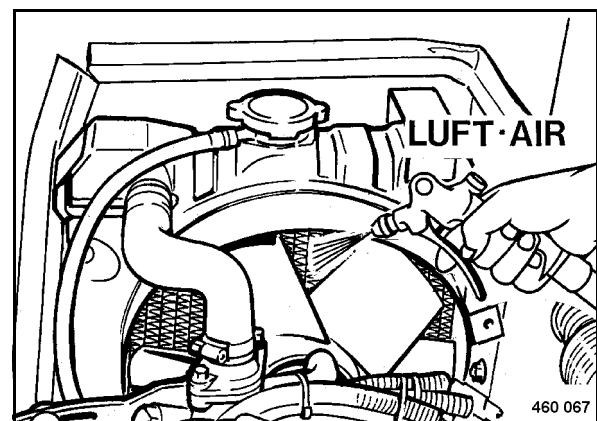

Fig. 106
- Blow the radiator (Fig. 106) out with compressed air from the air discharge side.